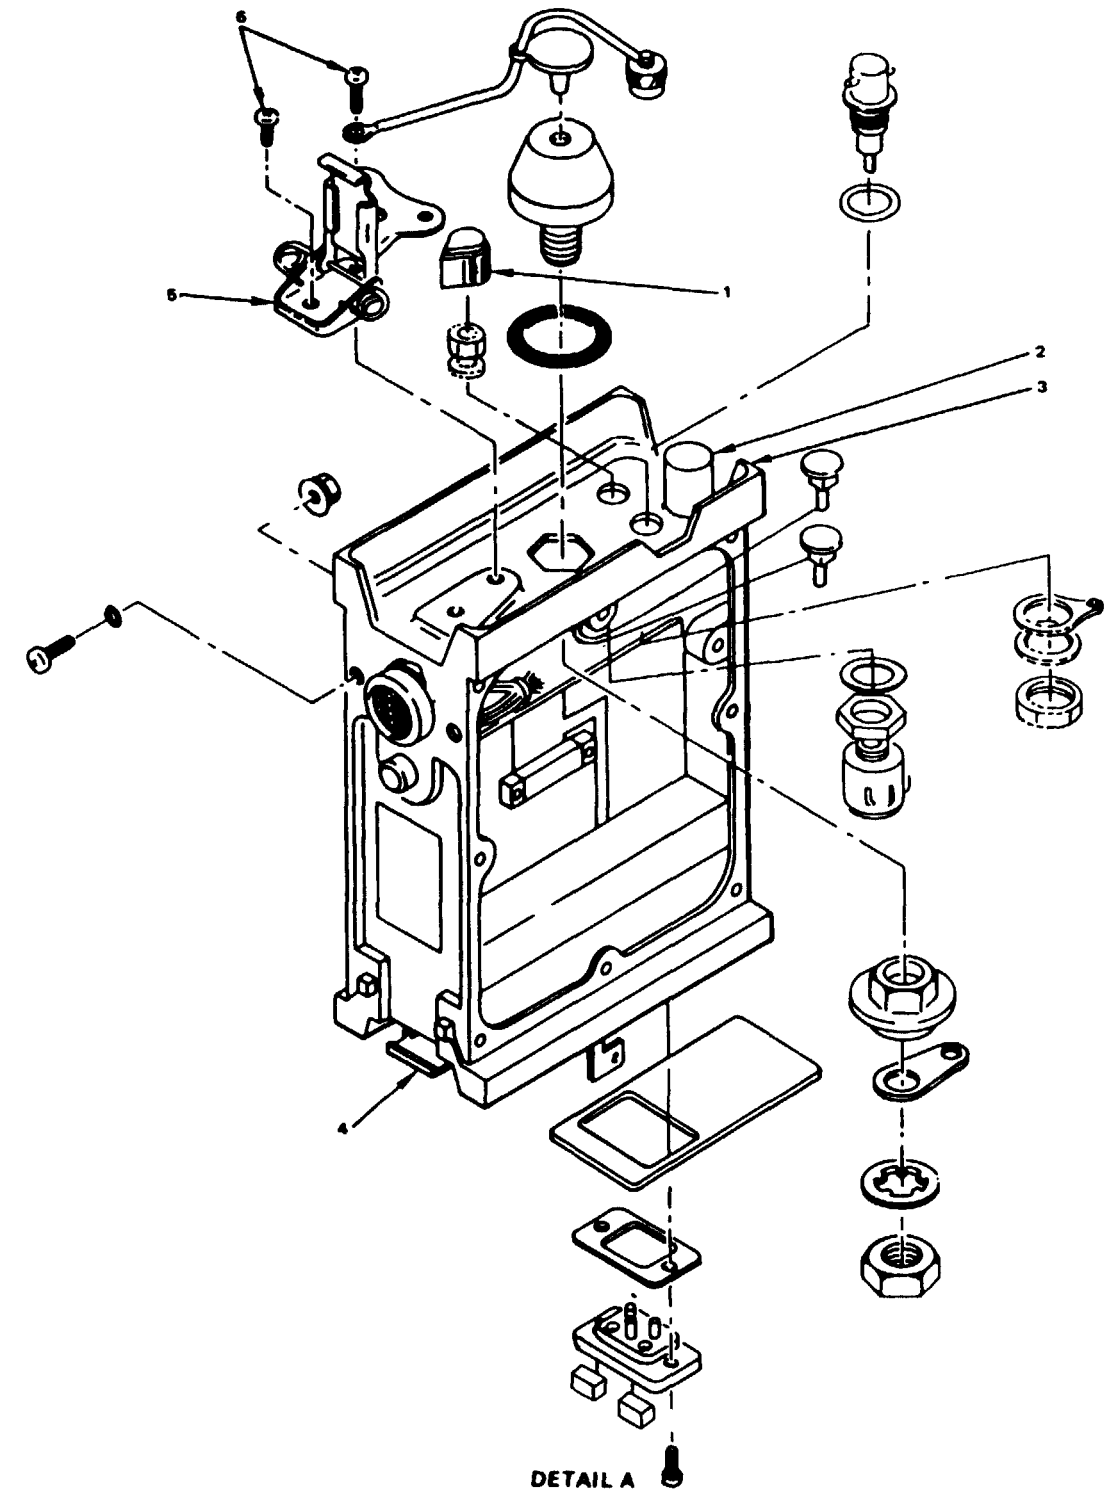

Figure 5-8. Ground A2E1 and Latch Removal and Replacement
**GROUND A2E1 REMOVAL AND REPLACEMENT, fig 5-8**
**LATCH REMOVAL AND REPLACEMENT, fig 5-8**